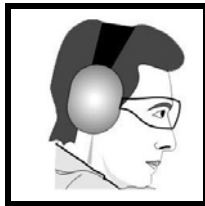

Figure 56. Sight and hearing protection
- b. To avoid these hazards, shooters should wear safety glasses made of impact-resistant glass or polycarbonate plastic with side shields (Figure 56). They also guard against firearm malfunctions, stray shotgun pellets or bullet fragments.
- b. Several types of hearing protection are available. On the firing range, shooters should always wear headphone-type hearing protectors (Figure 56). These protectors provide reasonable sound protection. They can also be used for years with minimum maintenance.